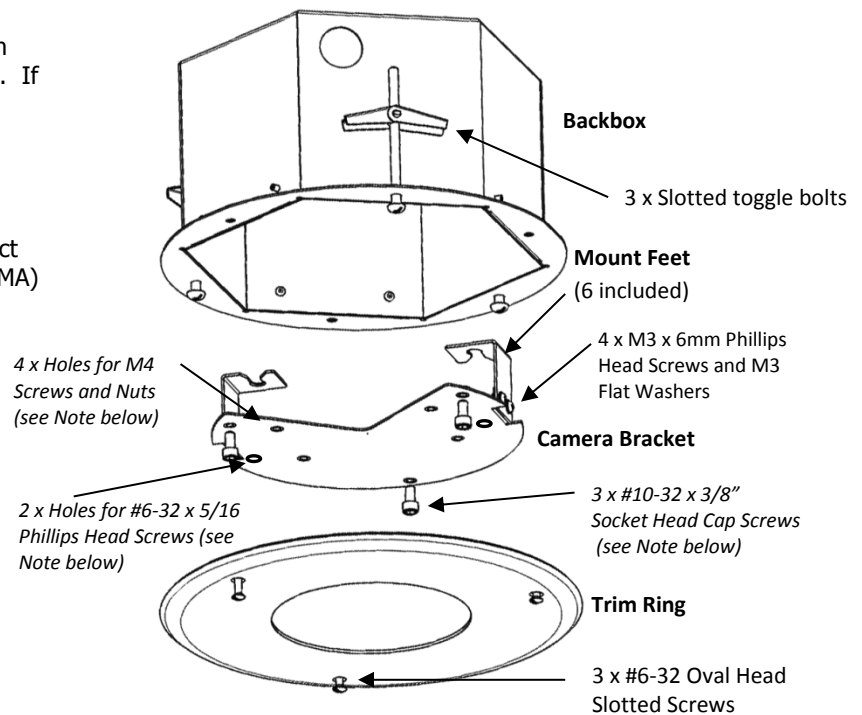

Figure 1 - Backbox Exploded View
6. Attach camera to camera bracket using the hardware referenced in the Note below. Attach the appropriate Mount Feet to the Camera Bracket as shown in Figure 1 using four (4) M3x6mm screws and M3 flat washers.
**Note:** Three (3) sets of Mount Feet and three (3) sets of camera fasteners are included: